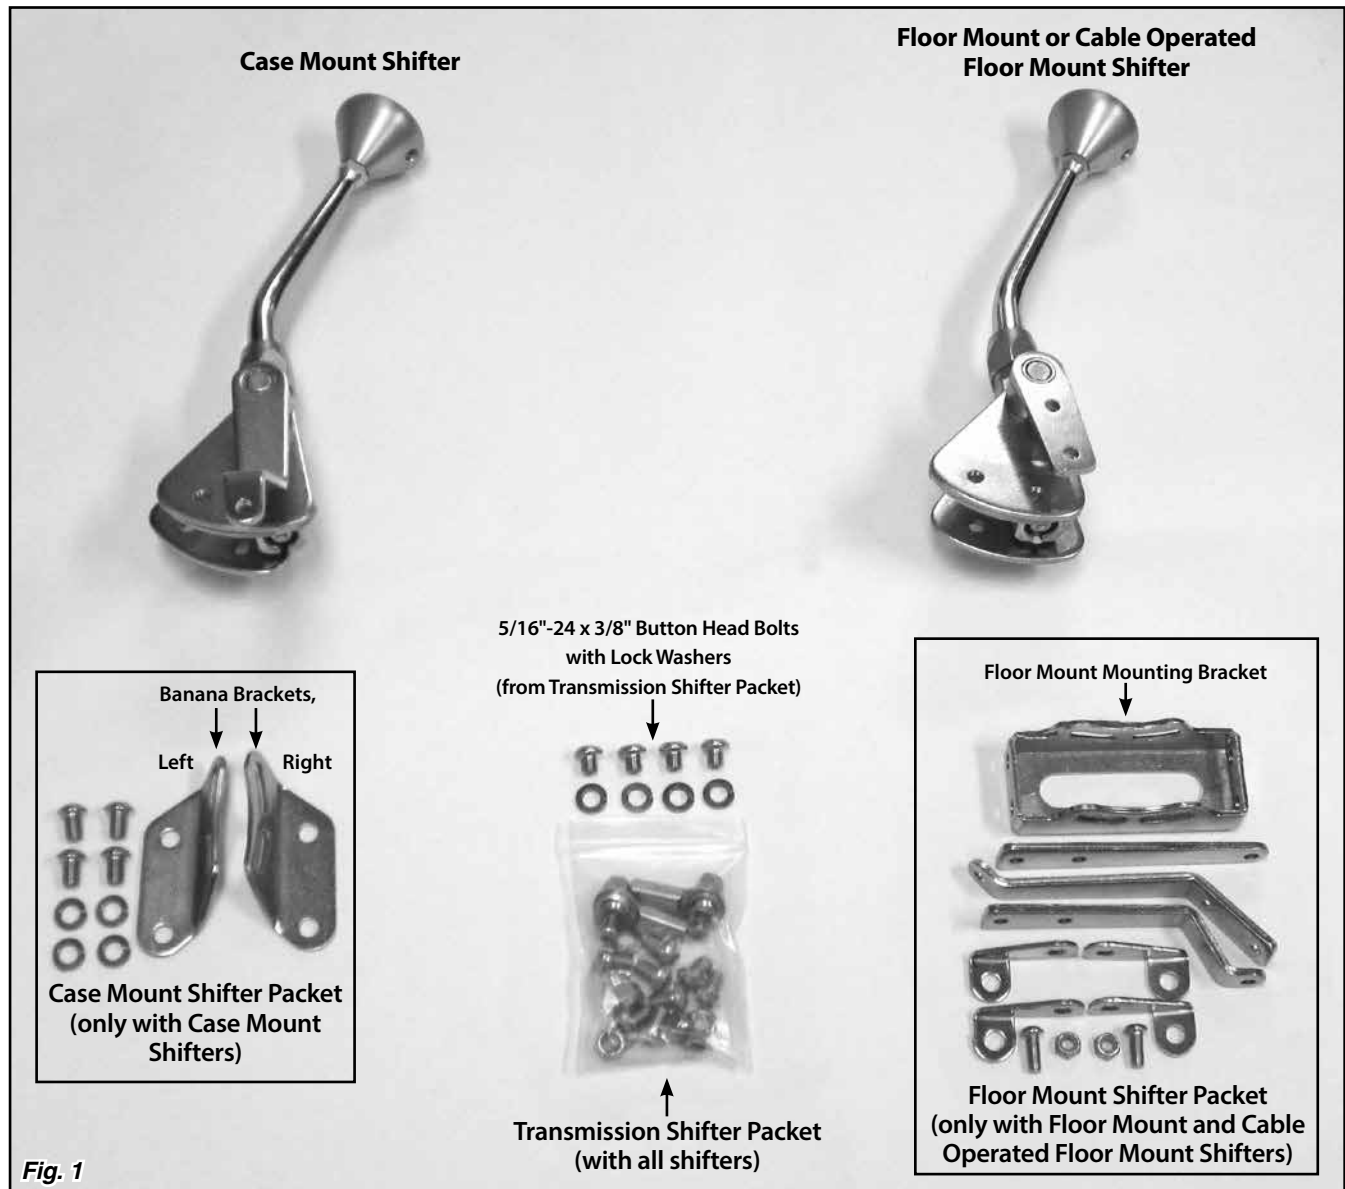

Fig. 1
Refer to Fig. 1 for the component names.
Step 1: Determine which style of shifter you are installing. See Fig. 1.
Take the banana brackets out of the case mount shifter packet. Note in Fig. 1, the left and right side banana brackets are different.